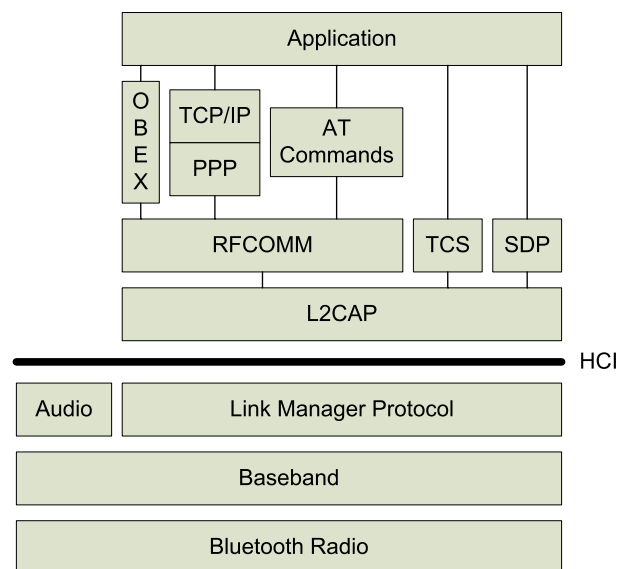

Figure 7.1: The Bluetooth Protocol Stack
Figure 7.1 shows an overview of the Bluetooth protocol stack. On top of the Host Controller Interface (HCI) and the Logical Link Control and Adaptation Layer Protocol (L2CAP) the Bluetooth stack provides the RFCOMM protocol which emulates a serial port connection. Over such a RFCOMM connection basic *Attention Commands* (AT Commands) can be sent to control a cell phone. The topic of this tutorial covers setting up an RFCOMM connection to a cell phone and sending AT Commands to make the phone dispatch an SMS message.
*Commands* (AT Commands) can be sent (see the Bluetooth stack, figure 7.1).